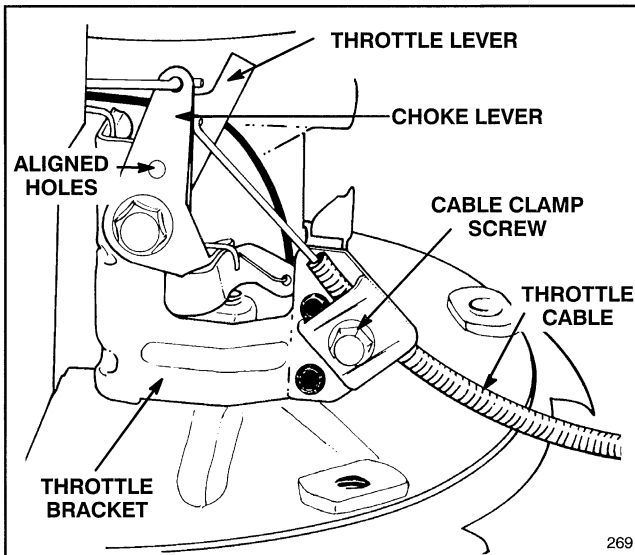

Figure 20
3. Loosen cable clamp screw until throttle cable slides (Fig. 20).
4. Check to see if holes in throttle lever and choke lever are aligned (Fig. 20). If not, follow adjustment procedure in step 5.
5. **ADJUSTMENT**—A small diameter pin may be inserted into aligned holes to hold adjustment. Push throttle cable until throttle lever contacts choke lever (Fig. 20). Tighten cable clamp screw. Remove pin if used.